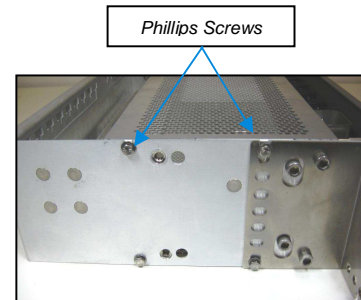

Fig. 3 – Top Cover Phillips Screws
- Loosen each screw 1 full turn max. Screws shall be left attached to unit. See fig. 3 for screw positions.